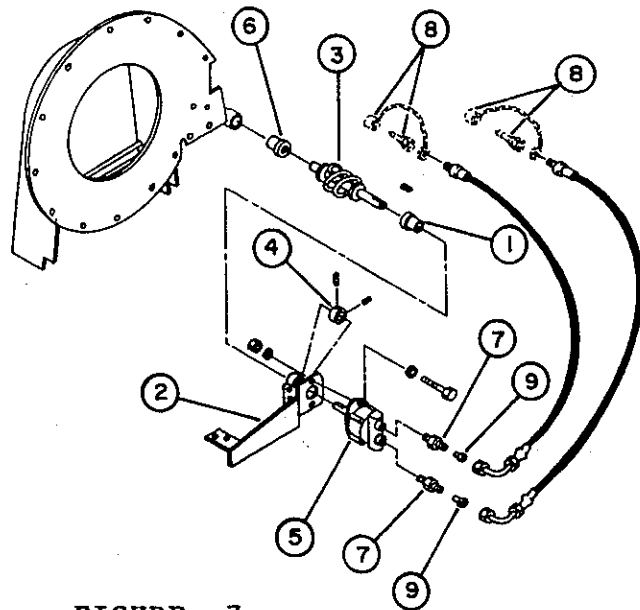

FIGURE 7
- b) Insert the 1 11/16" long bushing (fig.7, item 1) in the rotation bracket (fig.7, item 2).
- c) Install longest tube end of rotation worm (fig.7, item 3) in the bushing in rotation bracket.
- d) Insert locking collar (fig.7, item 4) over rotation worm. Install a 1/8" x 3/16" x 1" key in the hydraulic motor shaft keyway.
- e) Install hydraulic motor (fig.7, item 5) on rotation bracket and inside rotation worm. Secure the motor on the rotation bracket using two 3/8" x 1 1/4" bolts, flatwashers (on motor side), lockwashers and nuts. Torque to 35-42 lbs/ft.
- f) Install rotation bracket assembly on upper side of nozzle base lip and worm inside bushing (fig.7, item 6) in tube weldment. Secure assembly with two more retaining plates on under side of nozzle base lip and four 1/4" x 3/4" bolts, lockwashers & nuts. Remove linear play by sliding worm against rotation bracket and locking collar toward worm, tighten the locking collar set screws and all bolts.
- g) Install a connector 7/8" O.R.B. male x 9/16"-18 J.I.C. male (fig.7, item 7) in each port of hydraulic motor. Tighten.
- h) Using thread sealant, attach a male quick coupler with rubber dust cap (fig.7, item 8) (not included) on free end of hoses (dust cap ring must be on hose before installation).
- i) Connect the two hydraulic hoses to the motor, placing a flow restrictor (fig.7, item 9) in connector (fig.7, item 7).